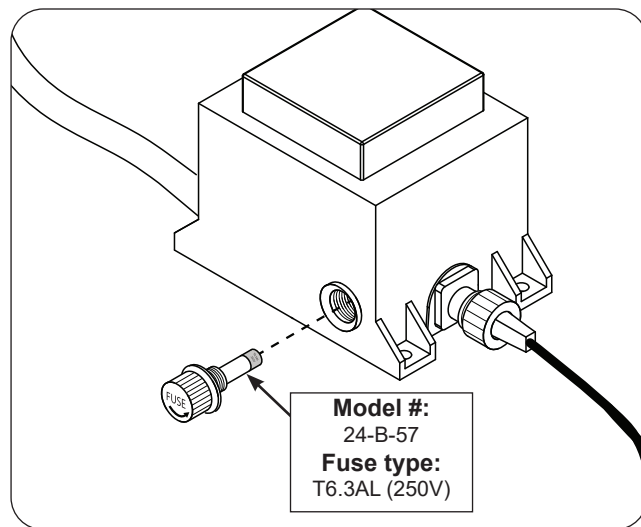

Fig. 44-1 Replace fuse
3. Locate the fuse holder on the power supply box (see Fig. 44-1).